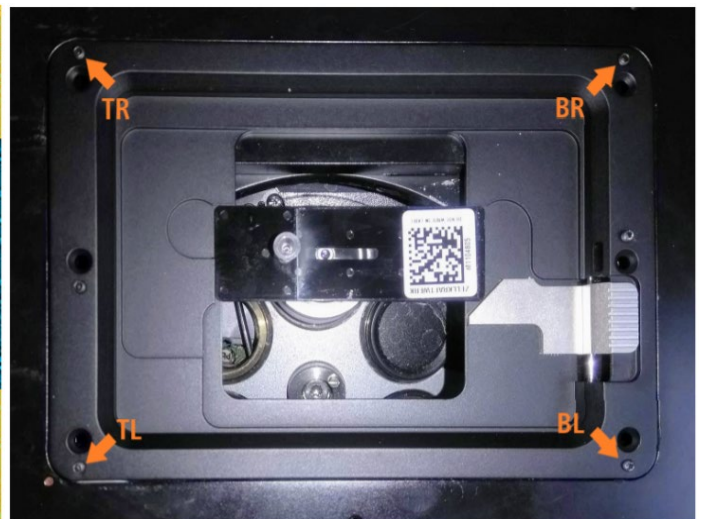

Fig. 5 | Spacer screws in the corners of the chip insert as designated
2. Refer to Fig. 5 to determine which spacer screw corresponds to the corner with the lowest focus height.